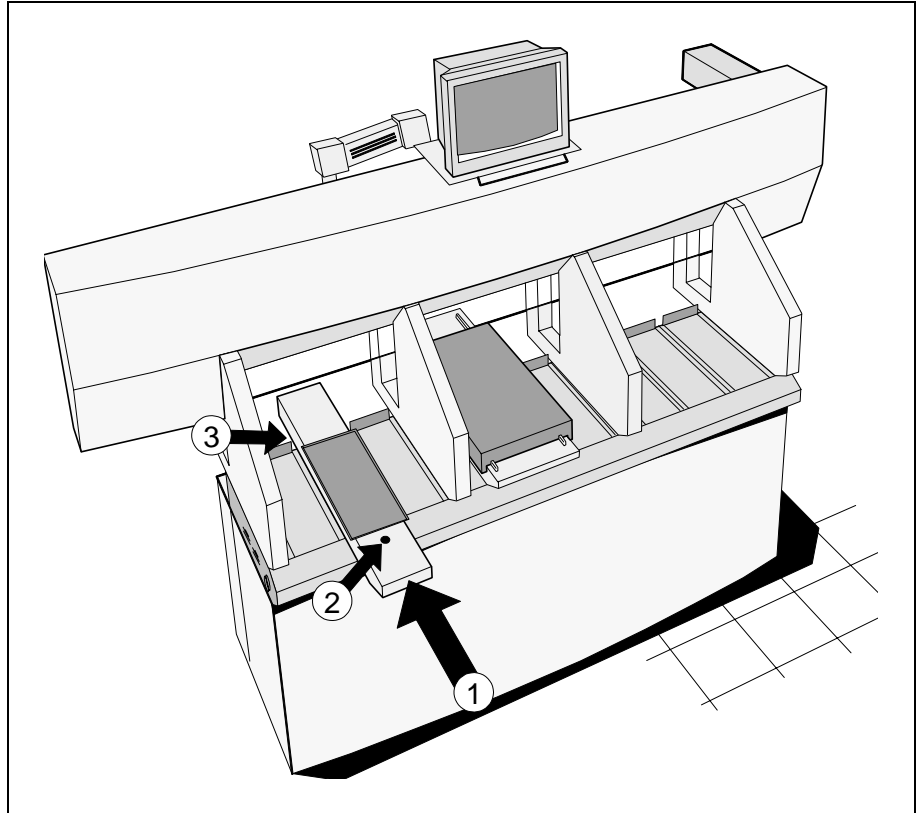

Figure 12-15. Tray Wagon Magazine
Figure 12-15 below shows the Tray Wagon Magazine inserted in one of the magazine positions of a TP9-UFP machine.
1. Insert the Tray Wagon magazine in a magazine position ('1' in Figure 12-15). Any magazine position can be used for a one-module magazine. Two- and three-module magazines can be used in all magazine positions except for the positions required for the magazine top overhang.
2. Fasten the magazine by tightening the screw (2).